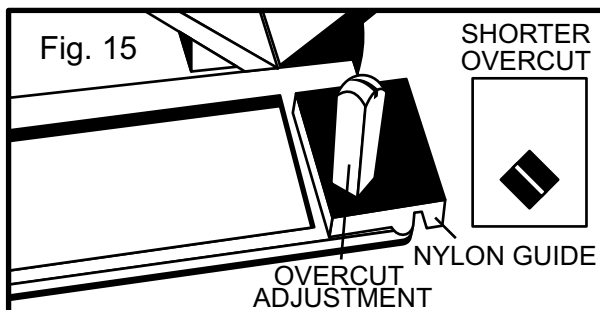

Fig. 15
- b. To shorten overcut, turn overcut adjustment post toward position shown in Fig. 15.